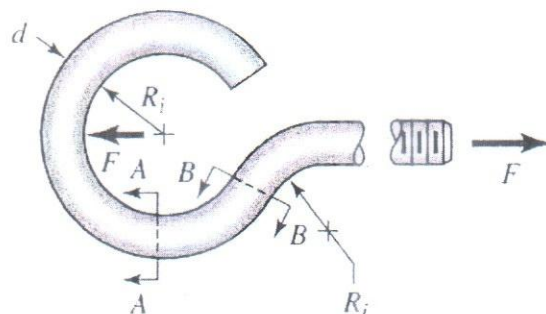

Figure 3
- 3(b) **Figure 3** shows a steel eyebolt, loaded with a force $F=350$ N. The bolt is formed from wire of diameter $d=7$ mm to a radius $R_i=10$ mm in the eye and at the shank. Estimate the stresses at the inner and outer surfaces at section B-B, located along the line between the radius centers. (CO1)